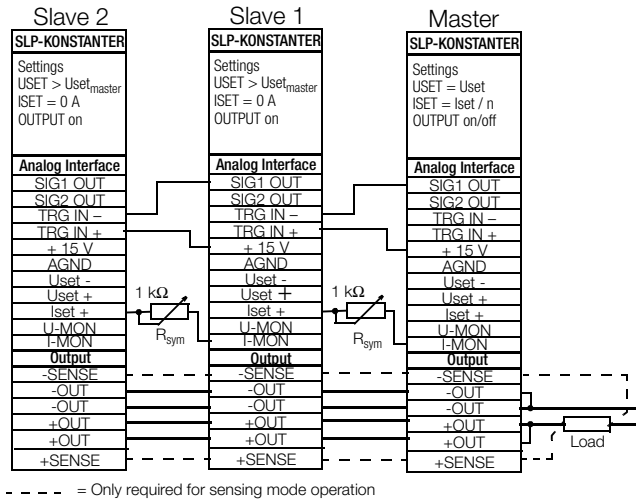

Figure 5.8.2 Wiring for Parallel Master-Slave Operation
- Connect **master** and **slave** devices as shown in figure 5.8.2.